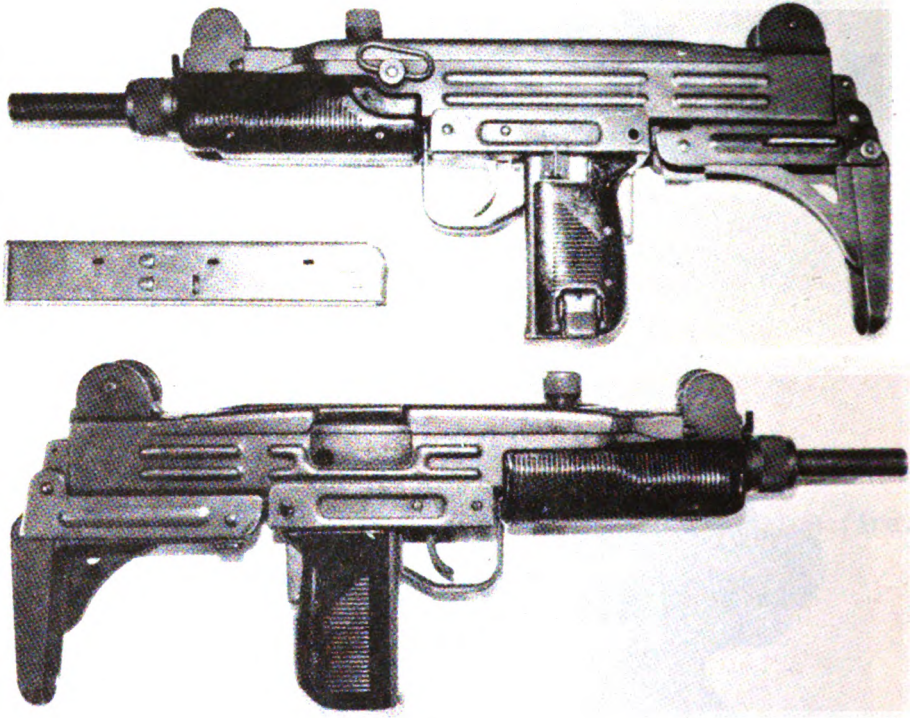

Figure 4
4. Identify the UZI. (See fig. 4.)